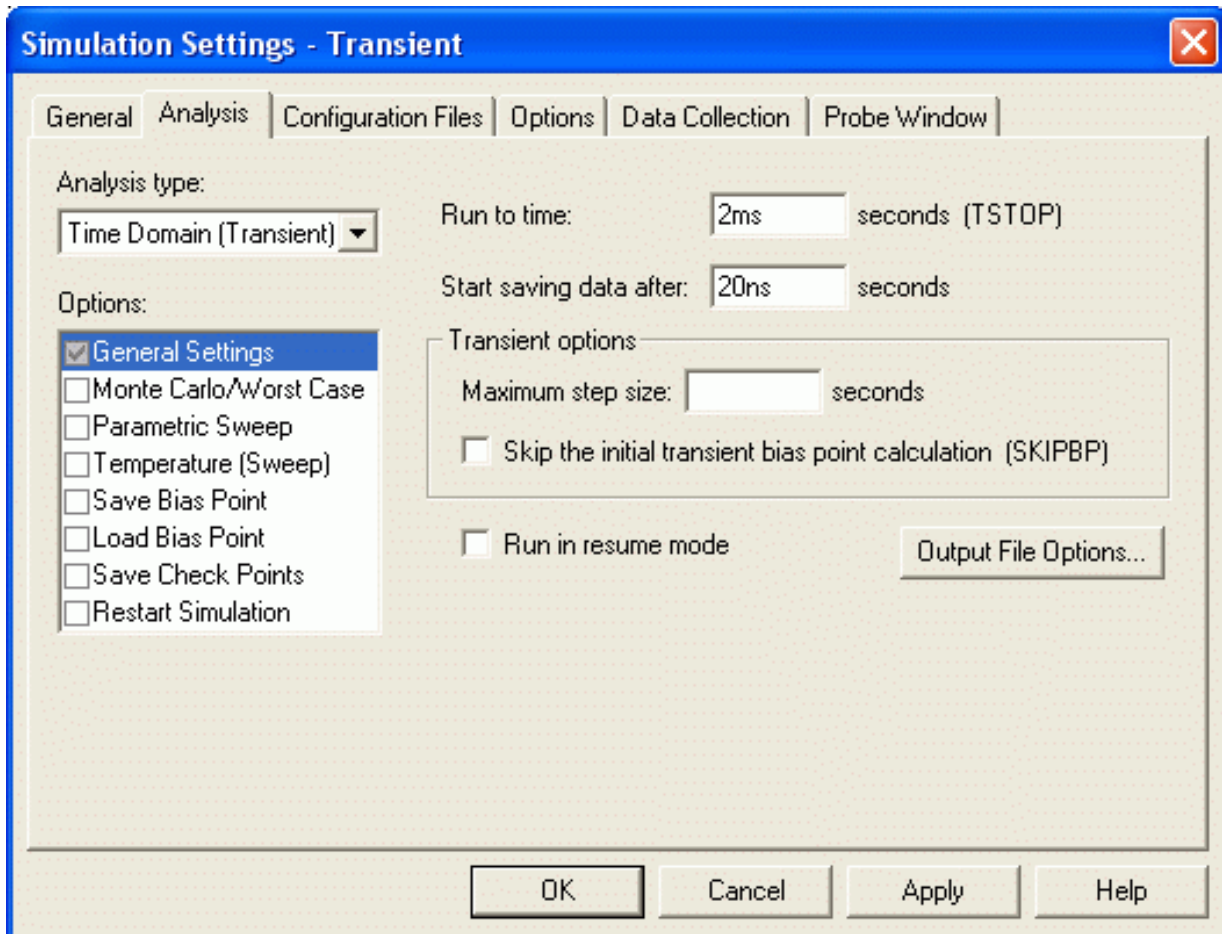

Figure 2-17 Transient analysis simulation settings.
- From the Analysis list, select Time Domain (Transient) and enter the settings shown in Figure 2-17.